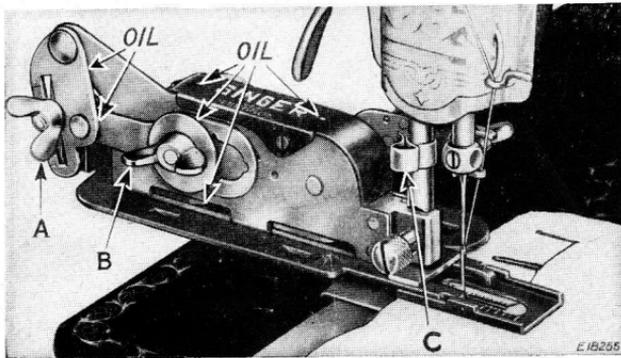

Fig. 3. Left Side, Showing Adjustments and Oiling Points
4. Guide the attachment into position from the rear of the machine so that the fork (D) straddles the hub of the needle clamp, and securely fasten the attachment to the presser bar with the slotted clamping screw (E). Turn the thread cutter (C, Fig. 3) to the left if it interferes with the attachment.
2. Turn the thumb nut (B, Fig. 3) toward you until the feeding foot is in its farthest forward position, *i.e.*, closest to you.
Loosen the thumb nut (A, Fig. 3). Move it down in the slot for longer buttonholes, or upward for shorter buttonholes. Using a scrap of material, adjust the spacing of stitches, the bight and the cutting space, as desired.
Loosen the thumb nut (A, Fig. 3), and move it all the way down in the slot to make a one-inch buttonhole, then tighten thumb nut.
Turn thumb nut (B, Fig. 3) to bring the feeding foot all the way forward toward you and around the turn until line 2 at top of the indicator plate is opposite the needle.
Holding the fabric firmly in position with the right hand, raise the attachment gently with the left hand and, with the left hand, turn the thumb nut (B, Fig. 3) so as to bring the feeding foot around the first turn, around the second turn and up until the line indicating the length of the buttonhole desired is opposite the needle.